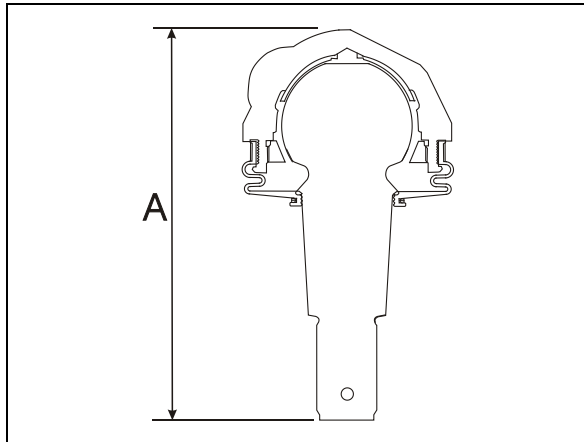

FIGURE 32: UPPER A-ARM BALL JOINT 16116
2. Using a caliper, measure dimension "A" on Figure 32.